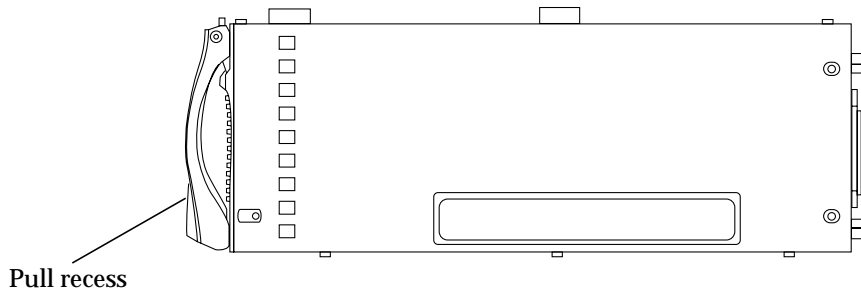

FIGURE 2-4 Blade Locking Mechanism
- 4. If required, open the blade lever by inserting a finger in the pull recess located in lower portion of the blade lever and pull the lever mechanism in a forward and upward motion, causing the lever to unlatch (FIGURE 2-4).**